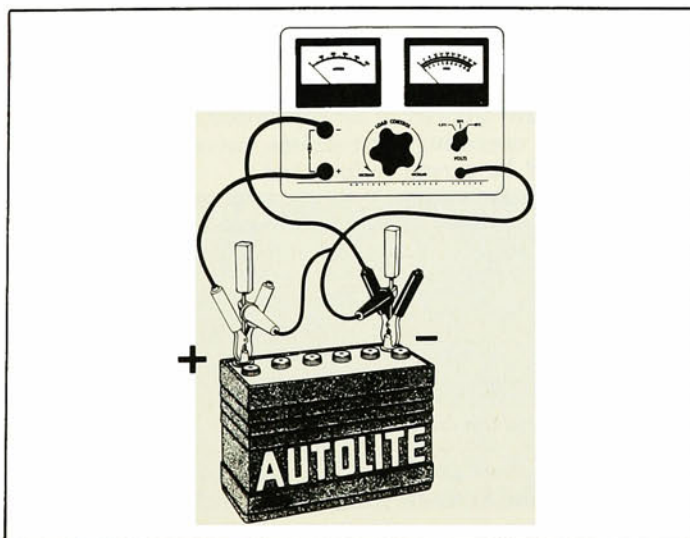

Figure 2—Capacity Test Connections
1. Connect the appropriate leads to the battery posts. (See Figure 2.) Be sure the voltmeter clips are connected **DIRECTLY** to the battery posts, and not to the heavy tester clips.